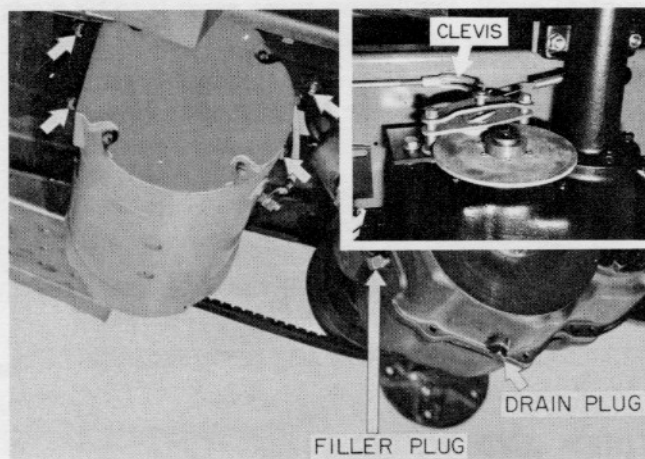

Figure 14. Brake, Transaxle, and Motor Mounting
After 100 operating hours, the transaxle filler plug should be removed and the fluid level checked (See Figure 14). The oil level should be to the bottom edge of the filler hole. If necessary, replenish with approved axle fluid only, i.e., SAE EP90.
1. Loosen the four carriage bolts holding the motor plate. Insert a 1/4" wedge under the forward part of the motor plate, and retighten the bolts finger tight (See Figure 14).
A fully depressed brake pedal or an engaged parking brake should prevent the tractor from rolling on average inclines. If the brake does not perform satisfactorily, the following adjustment may be made: (See Figure 14.)